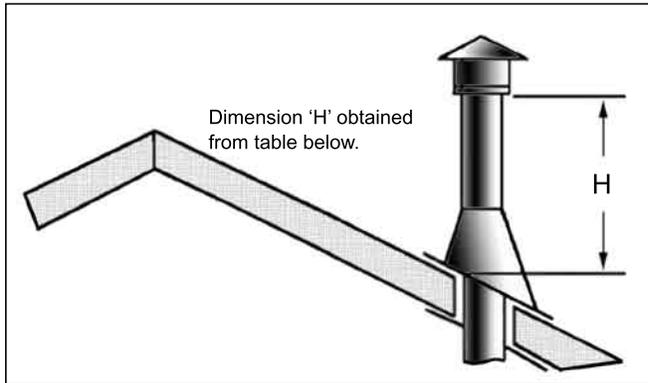

Figure 13: Height of Vertical Termination; Reference Table 3.
STEP 8. Continue to add pipe sections until the height of the vent cap meets the minimum code requirements. Refer to Figure 13 and Table 3. Note that for steep roof pitches, the vent height must be increased. In high wind conditions, nearby trees, adjoining roof lines, steep pitched roofs, and other similar factors can result in poor draft, or down drafting. In these cases, increasing the vent height may solve the problem.
Table 3: Minimum 'H' for Figure 13